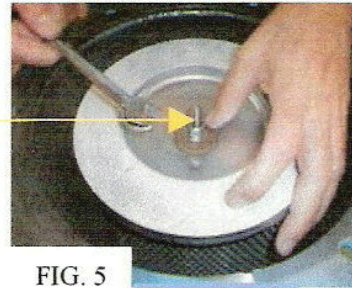

FIG. 5
- Place the washer over the tie rod (Fig. 4) and thread the Nyloc® retaining nut (Fig. 5)
- Once the nut is seated, tighten the nut one and one half turns while holding the element rotating (Fig. 5)